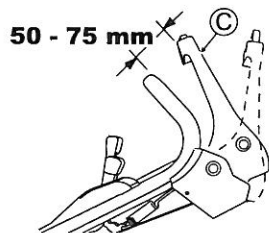

Fig. 14.
Adjust so that the blade starts rotating when the distance between Blade lever (C) and the handle is 50 - 75 mm with the yellow button pressed as shown in Fig. 14.